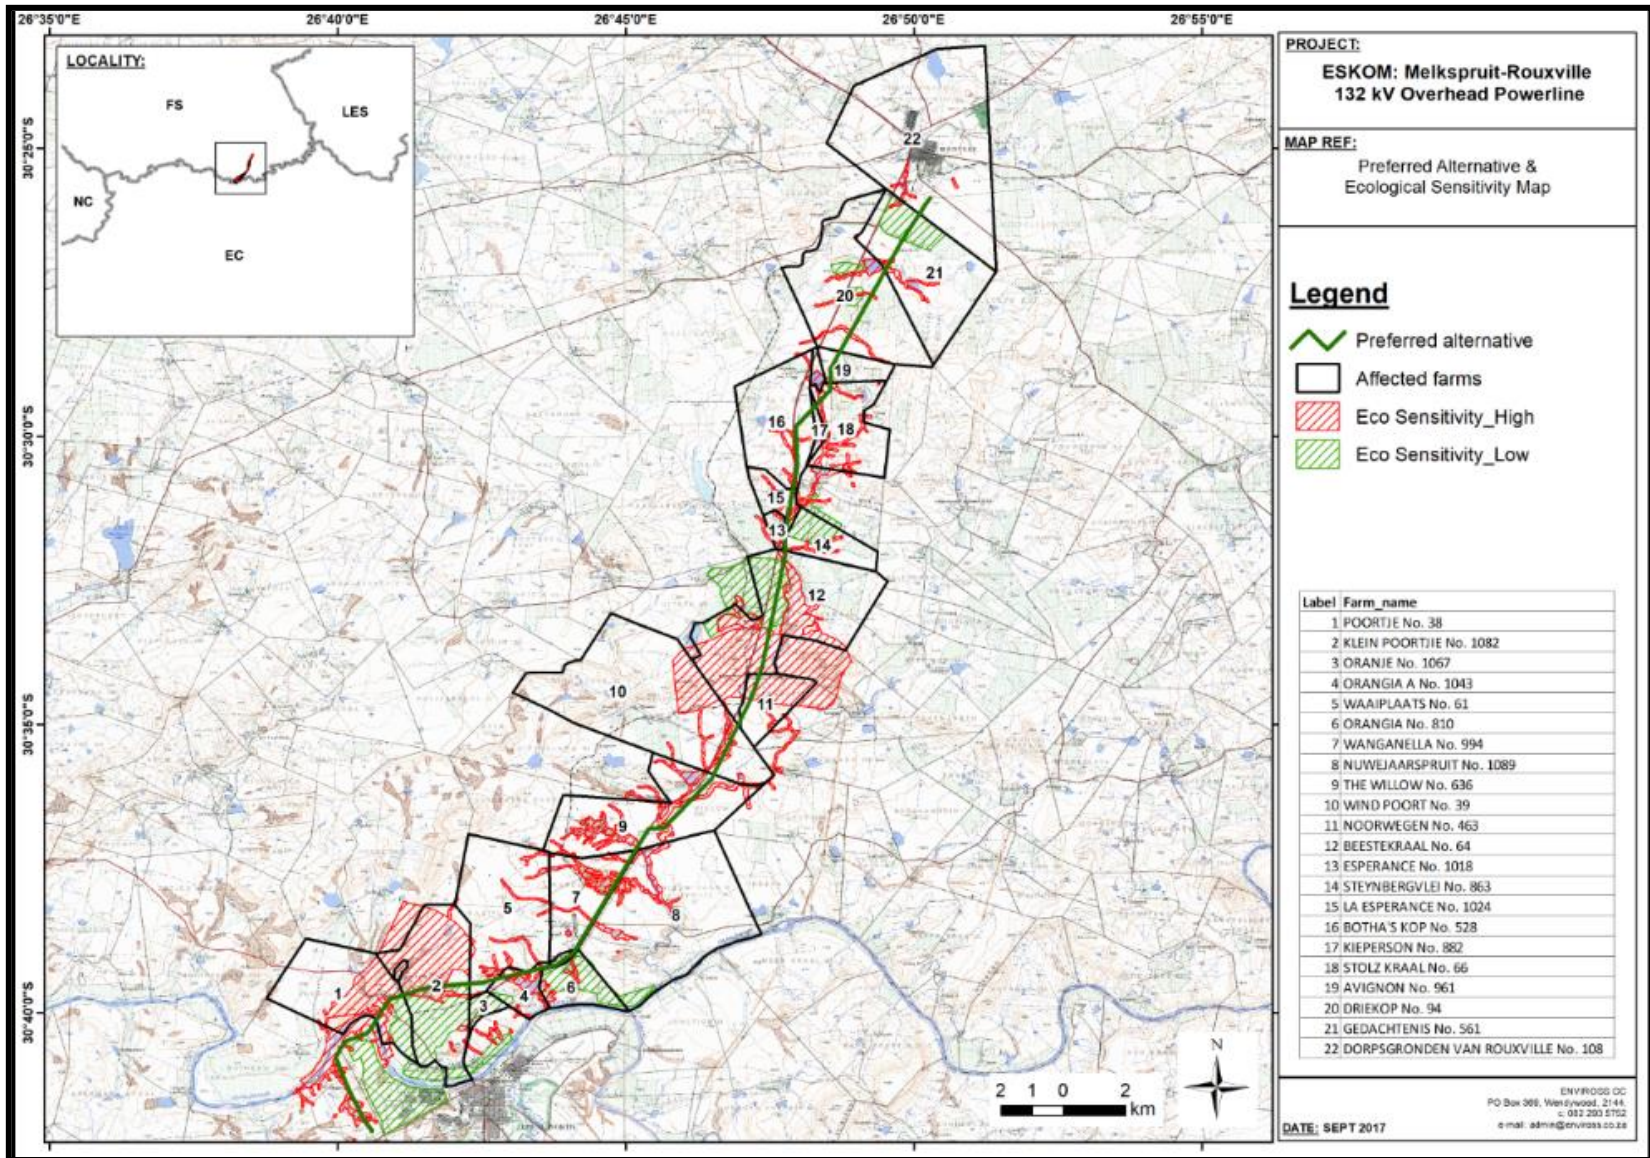

Figure 1: Ecological Sensitivity Map
Figure 1: Ecological Sensitivity Map	3
- Sensitive habitat features were identified during the survey and an ecological sensitivity map compiled by the Ecologist needs to be taken into consideration during the planning phase of the tower positions, which is shown in *Figure 1* below.
The Ecological Sensitivity Map is shown in *Figure 1* below: